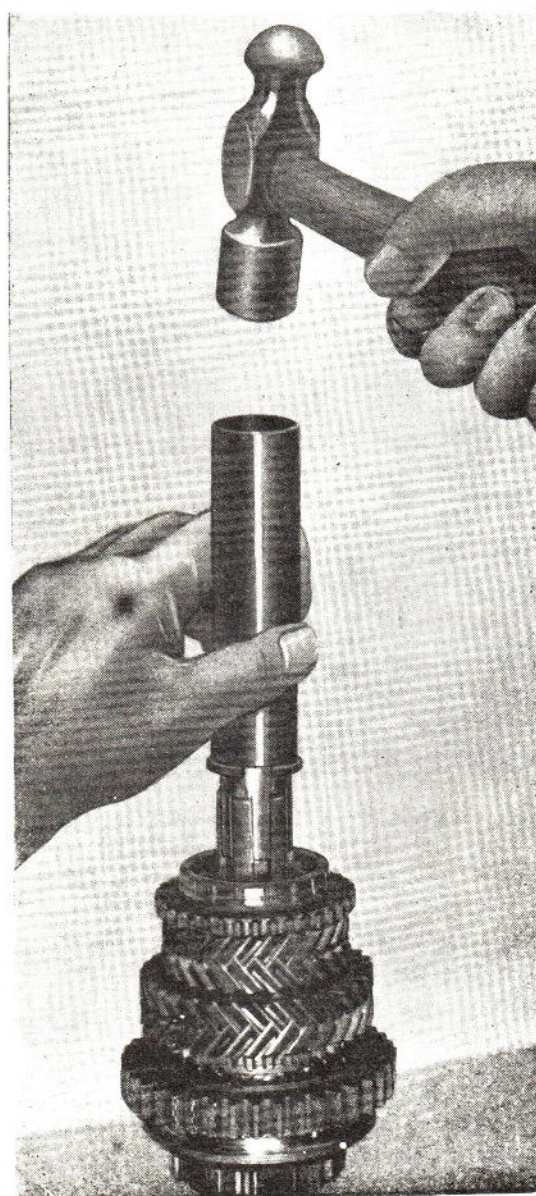

Fig. 48 Using circlip fitting tool.
7. A new circlip should be used when re-assembling mainshaft. This circlip should be fitted with a proper expander, such an expander is shown being used in Fig. 48. These expanders may be obtained from our Spares Department.